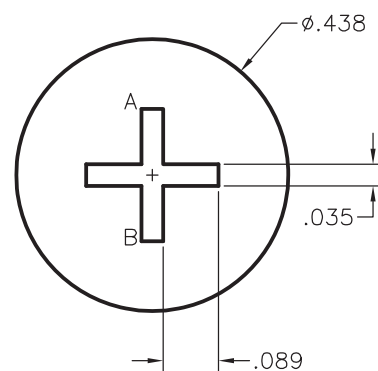

Fig. 31-6
Draw the views of the fasteners in Figs. 31-6 through 31-8 at the sizes indicated. Omit text and dimensions. Use the appropriate commands to find the information requested. Write their values on a separate sheet of paper. Refer to the files **calcprb1.dwg**, **calcprb2.dwg**, and **calcprb3.dwg** located on the OLC in the Drafting & Design Problems section. These files correspond to Figs. 31-6, 31-7, and 31-8, respectively.
1. Draw the top view of the Phillips-head screw shown in Fig. 31-6 according to the dimensions shown. Then find the following information: